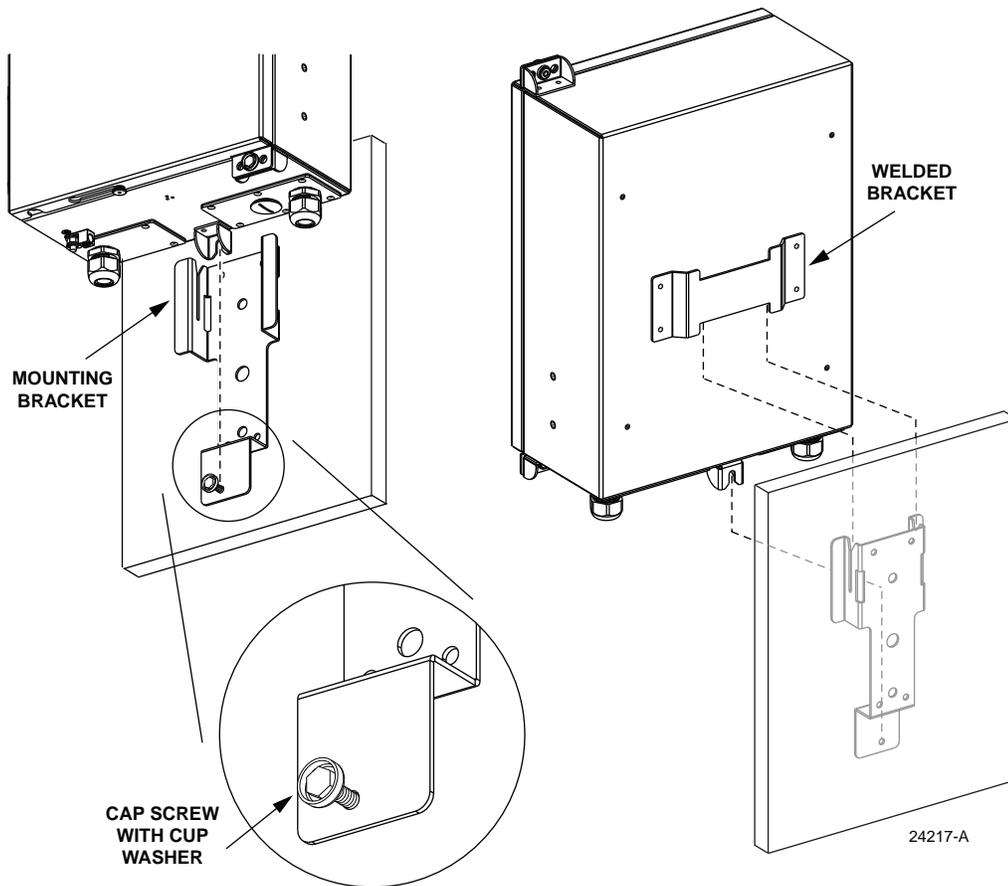

Figure 8. Installing Cabinet on Wall-Mounted Bracket
7. Hang the cabinet from the installed mounting bracket. The welded bracket on the back of the cabinet, shown in Figure 8, fits into the two slots at the top of the mounting bracket. The partially installed cap screw at the bottom of the mounting bracket fits into the slotted tab at the bottom of the cabinet.
6. Hang the cabinet from the installed mounting bracket. The welded bracket on the back of the cabinet (see Figure 8) fits into the two slots at the top of the mounting bracket. The partially installed cap screw at the bottom of the mounting bracket fits into the slotted tab at the bottom of the cabinet.